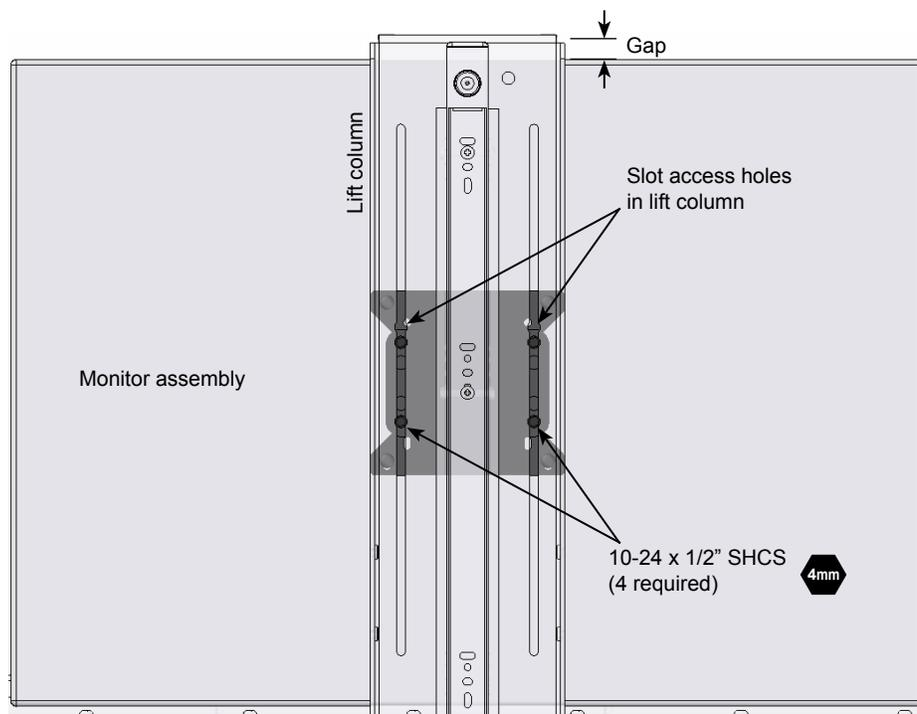

Figure 4.2
2. Thread (4) 10-24 x 1/2" SHC screws into the rectangular plate at the back of the VESA mount. Leave about 1/8" between each screw head and the plate.
3. Align the attached VESA mount with the lift column slots and insert the lower pair of 10-24 SHC screws through the slot access holes provided near the center of the slots. **Figure 4.2.**
5. Locate the monitor assembly at the desired height on the lift column then tighten all (4) 10-24 SHC screws. If the monitor is located near the very top of the column, leave a small gap between the top of the monitor and lift bracket to provide enough clearance for the monitor to fully tilt. The gap distance needed will vary with monitor size.